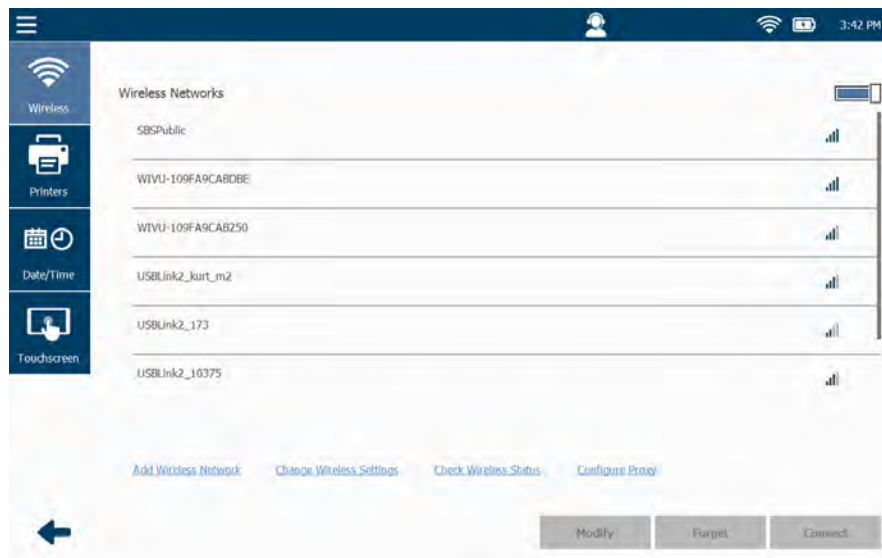

Figure 6.3 Wireless Networks
If the network you want to connect to does not appear in the list displayed on the Wireless Networks screen (see Figure 6.3), you can add it.
- 1 Touch **Add Wireless Network** at the bottom of the Wireless Networks screen (see Figure 6.3).
The **Wireless Networks** screen is displayed (Figure 6.3).
- 1 Select **Change Wireless Settings** from the Network Settings screen (Figure 6.3).